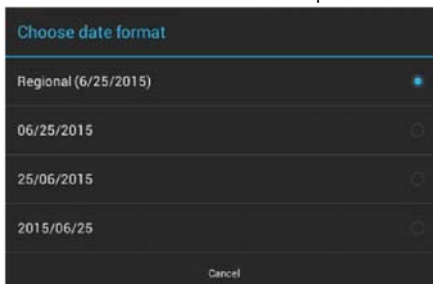

FIG. 83 Choose Date Format window
Choose Date Format:	Use the Choose Date Format window (FIG. 83) to select the desired date format.
1. Press **Choose Date Format** to open the Choose date format window (FIG. 83).